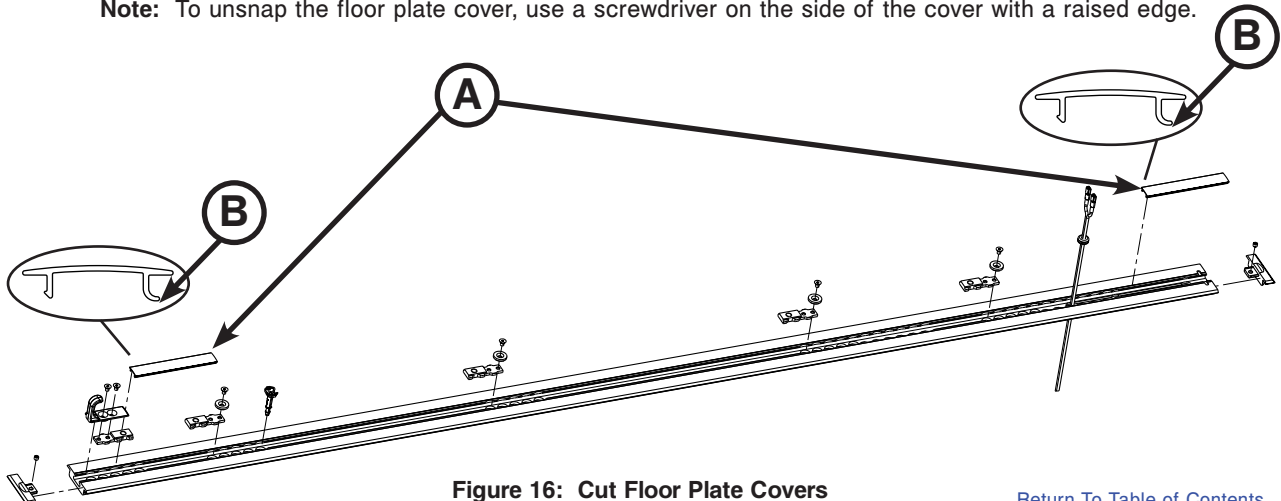

Figure 16: Cut Floor Plate Covers
37. Using a saw, cut the two floor plate covers (6390-001-166) (A) to fit the measured length on both ends (Figure 16). The floor plate cover does not fit over the floor plate attachment bracket.